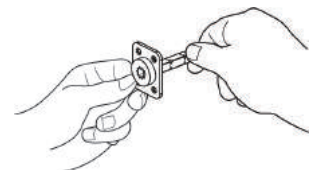

Figure 5
2. Insert lever spindle into adapter and plate assembly so that it is held in place. (Figure 5)